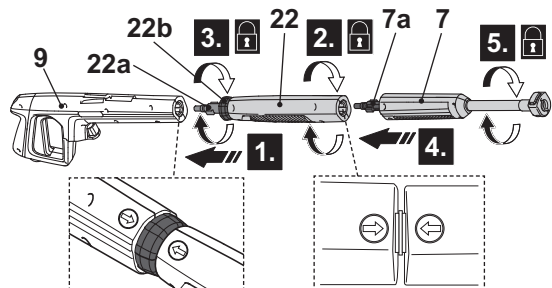

Fig. 12
1. Always attach the short extension lance (22) and extension lance (7) when using the Aquasweeper.
2. Align and insert the tongues (22a) of the short extension lance (22) into the grooves of the spray gun (9) connection port. (Fig. 12, step 1).